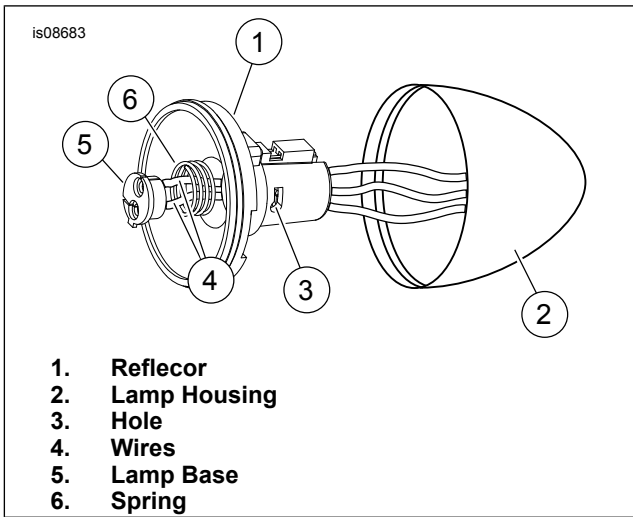

Figure 2. Socket, Lamp Housing, Wires, Lamp Terminal Base and Spring
4. See Figure 2. Pull the reflector (5) from the lamp housing (2). Insert a right angle pick or a small hex key from inside the bulb socket through hole (4). Remove all terminals from lamp base (5).